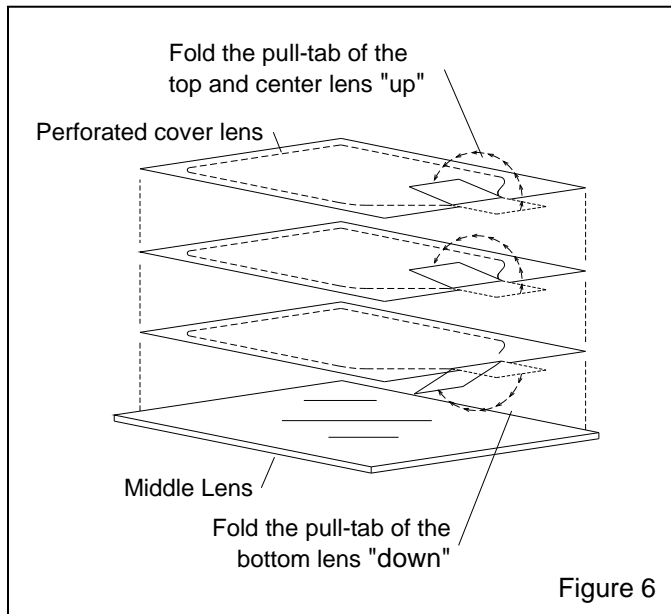

Figure 6
9.1.7 Fold the pull-tab of the bottom lens down as shown in Figure 6.